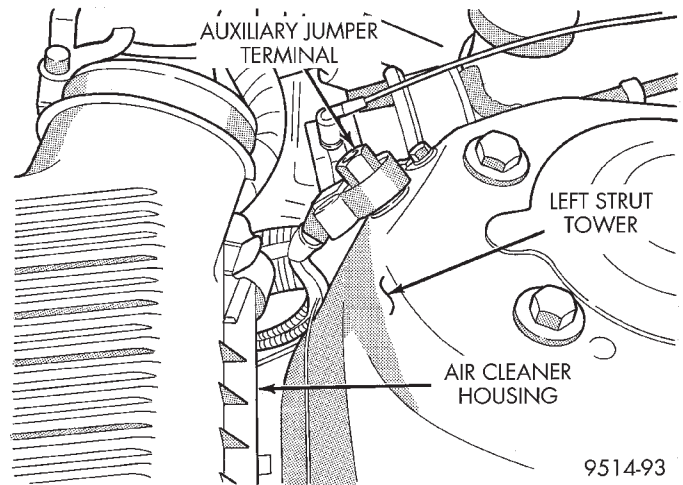

Fig. 20 Auxiliary Jumper Terminal
(1) Disconnect negative cable from auxiliary jumper terminal (Fig. 20).